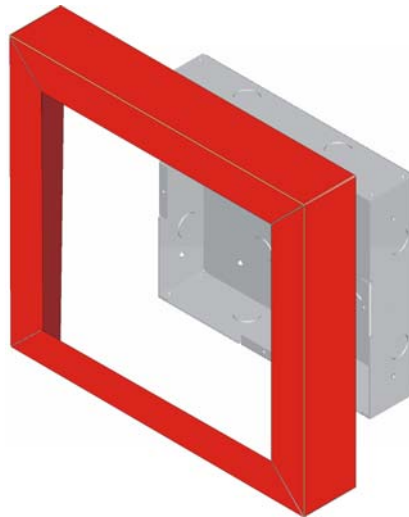

Figure 4-27 Installing Trim Ring
4. Place the trim ring over the back box as shown in Figure 4-27.